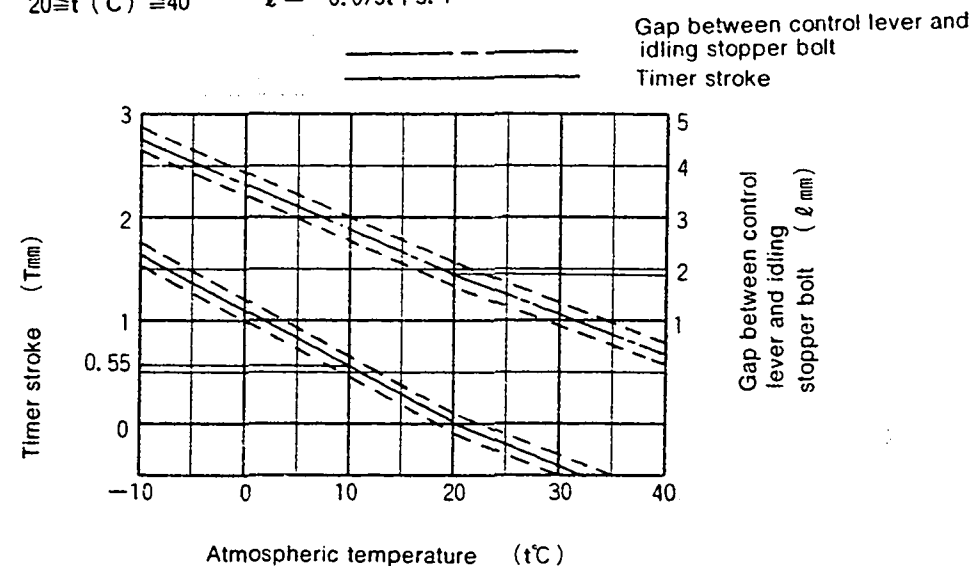

Fig 2.
- Calculate the timer stroke from Fig. 2 according to the atmospheric temperature at the time of adjustment.
#### Formula for calculating Fig. 2
1. Calculate the block gauge dimension  $l \pm 0.05$ mm from Fig. 2 according to the atmospheric temperature at the time of adjustment.